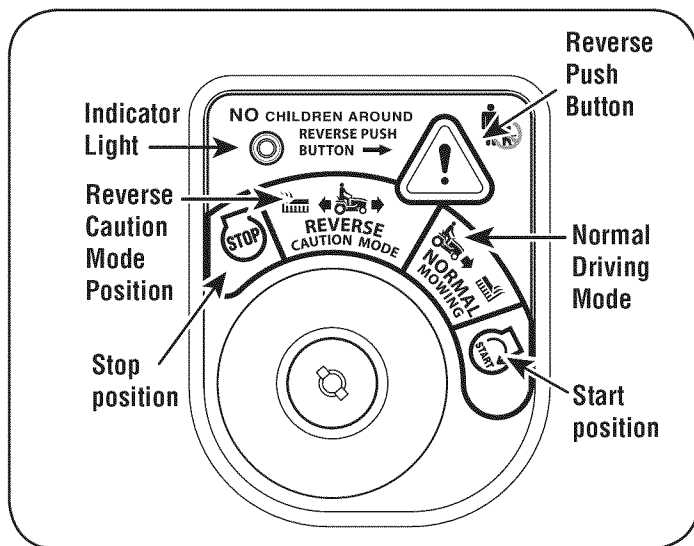

Figure 8
2. Turn the key from the NORMAL MOWING (Green) position to the REVERSE CAUTION MODE (Yellow) position of the key switch module. See Figure 8.
3. Depress the REVERSE PUSH BUTTON (Orange, Triangular Button) at the top, right corner of the key switch module. The red indicator light at the top, left corner of the key switch module will be ON while activated. See Figure 8.